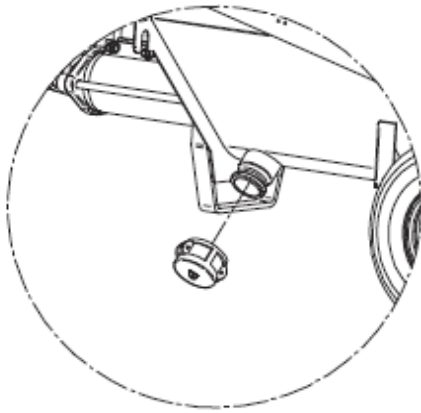

FIG 11
-Remove the plug at the bottom of the hopper (fig. 11) and use water to wash the machine thoroughly, starting from the bag splitter if installed.
If there is any risk of freezing, open the hopper plug, disconnect the pipelines and drain all water from the circuit (fig. 11).